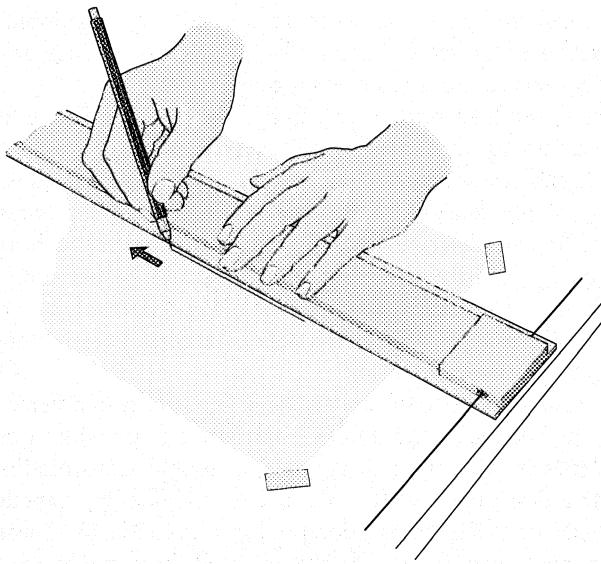

FIGURE 6.58 Drawing Horizontal Lines
**Horizontal lines** are drawn with the T-square, the parallel bar, or the drafting machine. Place the pencil point at the desired position of the horizontal line and move the straightedge up to the point, just touching it. When the straightedge is positioned, hold it with the free hand and forearm. This will minimize the deflection of the blade (when using the T-square or a drafting machine) as the line is drawn. Employing the previously discussed techniques, draw the line from left to right (Fig. 6.58). Horizontal lines are always drawn along the top edge of the straightedge. This places the straightedge between the hand and the paper and helps keep the drawing clean.